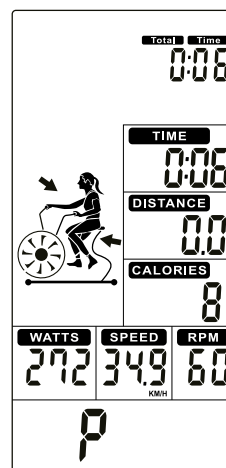

Fig. 4
A signal sounds for 1 second and the values for TOTAL TIME, TIME, DISTANCE, CALORIES are counted up. Also the values for WATTS, SPEED, RPM and PULSE are shown (Fig. 4).
- + If no pulse signal is received, PULSE shows P (Fig. 4).